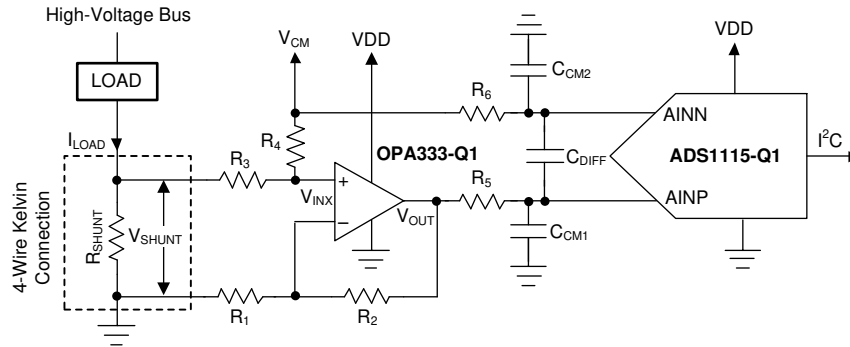

图 9-6. Low-Side Current Shunt Monitoring
Shunt-based, current-measurement solutions are widely used to monitor load currents. Low-side, current-shunt measurements are independent of the bus voltage because the shunt common-mode voltage is near ground. 图 9-6 shows an example circuit for a bidirectional, low-side, current-shunt measurement system. The load current is determined by measuring the voltage across the shunt resistor that is amplified and level-shifted by a low-drift operational amplifier, OPA333-Q1. The OPA333-Q1 output voltage is digitized with ADS1115-Q1 and sent to the microcontroller using the I2C interface. This circuit is capable of measuring bidirectional currents flowing through the shunt resistor with great accuracy and precision.
- To level-shift the ground-referenced signal to allow bidirectional current measurements while running off a unipolar supply. The voltage across the shunt resistor,  $V_{SHUNT}$ , is level-shifted by a common-mode voltage,  $V_{CM}$ , as shown in 图 9-6. The level-shifted voltage,  $V_{INX}$ , at the noninverting input is given by 方程式 5.
A shunt resistor ( $R_{SHUNT}$ ) is an accurate resistance inserted in series with the load as shown in 图 9-6. If the absolute voltage drop across the shunt,  $|V_{SHUNT}|$ , is a larger percentage of the bus voltage, the voltage drop can reduce the overall efficiency and system performance. If  $|V_{SHUNT}|$  is too low, measuring the small voltage drop requires careful design attention and proper selection of the ADC, operation amplifier, and precision resistors. Make sure that the absolute voltage at the shunt terminals does not result in violation of the input common-mode voltage range requirements of the operational amplifier. The power dissipation on the shunt resistor increases the temperature because of the current flowing through the resistor. To minimize the measurement errors resulting from variation in temperature, select a low-drift shunt resistor. To minimize the measurement gain error, select a shunt resistor with low tolerance value. To remove the errors caused by stray ground resistance, use a four-wire Kelvin-connected shunt resistor, as shown in 图 9-6.